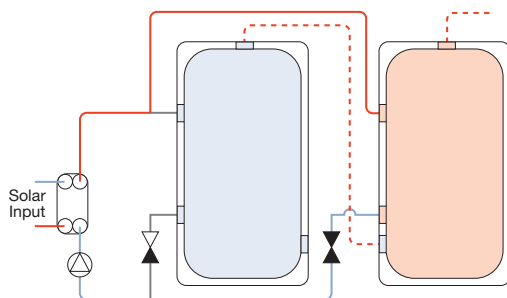

Figure 13: First tank charging
1. The solar controller detects a low temperature in Tank 1. Valve 1 is opened to allow all the solar energy to flow into the first tank. Since this is one half the overall volume, the tanks heats up twice as quickly as compared to one tank with the total volume (Figure 13).
3. If there is a hot water draw and the temperature in Tank 1 falls below the maximum, then Valve 1 opens and Valve 2 closes, allowing Tank 1 to heat up again (Figure 13).